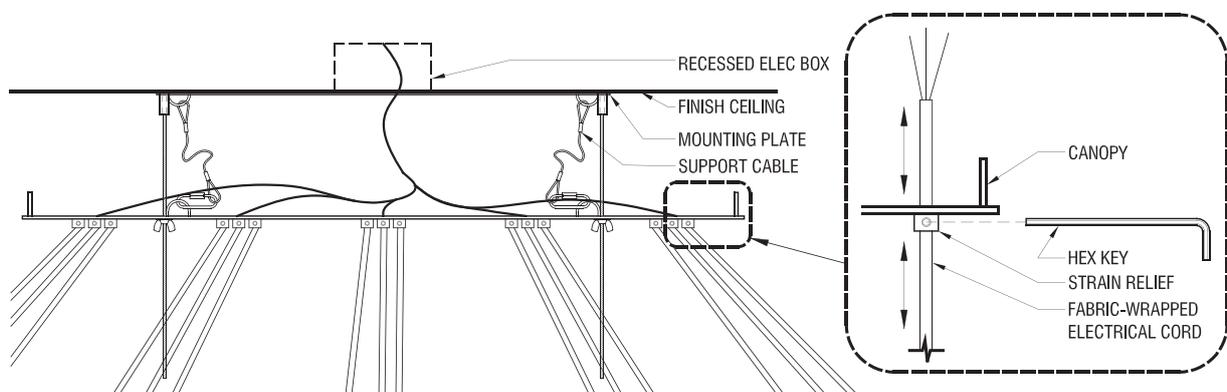

Figure 5. Attach support cable to canopy... raise canopy, remove nylon rods and fasten canopy to mounting plate
- 8 Carefully pass each cord through its corresponding strain relief on the canopy (*Figure 5*). Establish the approximate desired overall drop length, and gently tighten each strain relief just enough to support the fixture. Do not trim any of the cords yet.